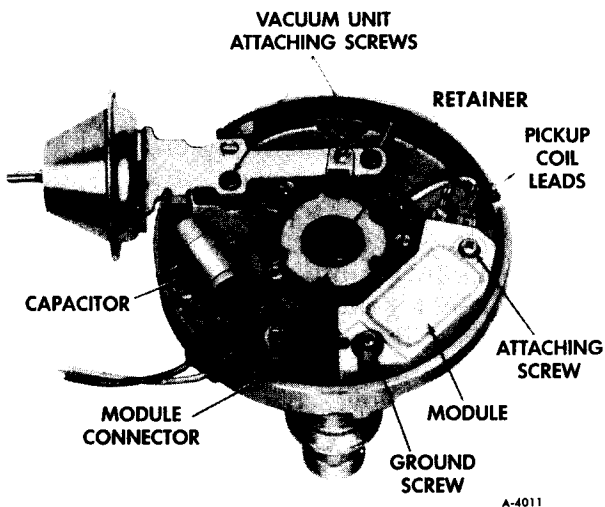

Figure 27—Top View of Distributor Housing With Shaft Removed
6. Check role pin hole on shaft for burrs. Remove shaft and weight assembly from housing (figure 27).